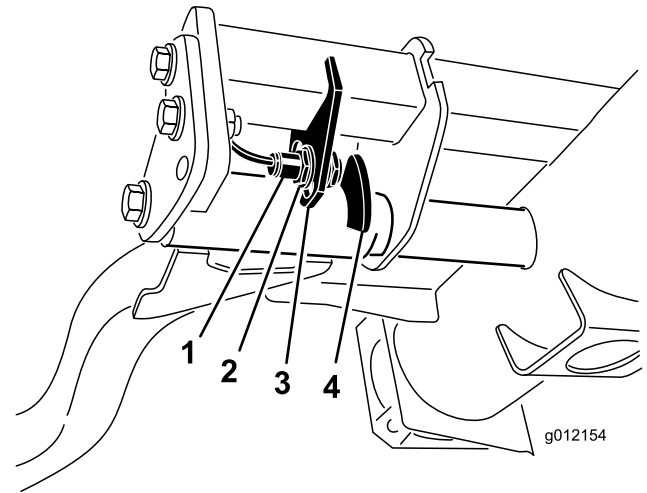

Figure 44
2. The lift arm switch is located underneath the hydraulic tank behind the front right lift arm (Figure 44).
3. Loosen the switch mounting screws (Figure 44) and move the switch down to increase the lift arm turn around height or move the switch up to decrease the lift arm turn around height. Tighten the mounting screws.